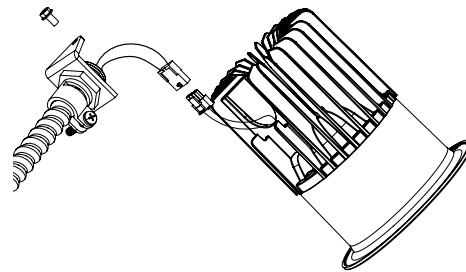

FIGURE 5
2. Fasten conduit adapter to TRIM SECTION using the screw provided (see Figure 5).
3. Fasten conduit adapter to TRIM SECTION using the screw provided (see Figure 5).
2. Before re-installing the trim, rotate the locking springs back against the slot wall in the adjustment ring (See Figure 5).